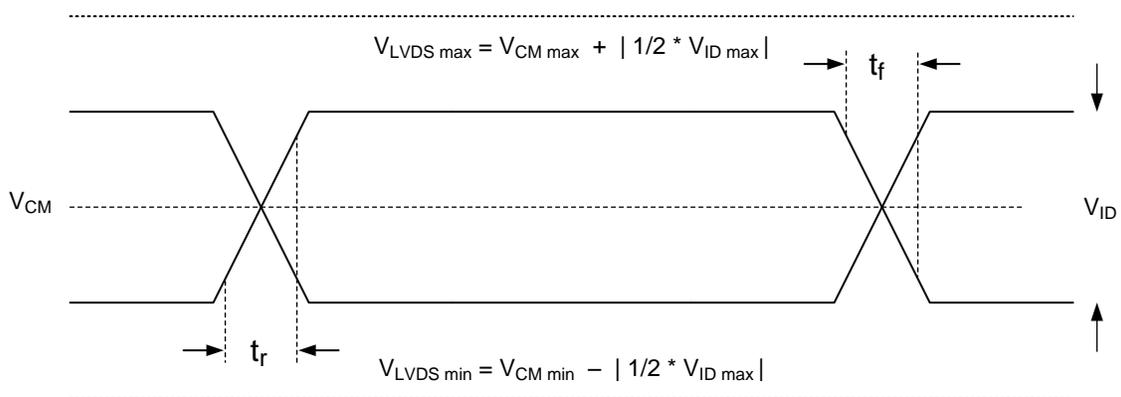

Figure 5. LVDS Waveform Requirements
(10) See Figure 5 LVDS Waveform Requirements.
(11) Simultaneous exposure of the DMD to the maximum Recommended Operating Conditions for temperature and UV illumination reduces device lifetime.
- (2) See Figure 5 for Timing Requirements for LVDS.
- (3) Channel C (Bus C) includes the following LVDS pairs: DCLK_CN and DCLK_CP, SCTRL_CN and SCTRL_CP, D_CN(15:0) and D_CP(15:0).
- (4) Channel D (Bus D) includes the following LVDS pairs: DCLK_DN and DCLK_DP, SCTRL_DN and SCTRL_DP, D_DN(15:0) and D_DP(15:0).